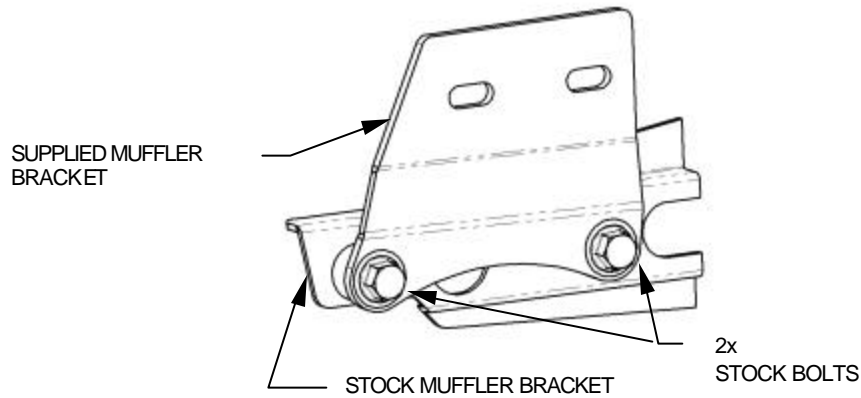

FIGURE 1
3. Remove the exhaust mount bracket from the box and mount it to the motorcycle mount bar using the stock bolts and nuts but **DO NOT TIGHTEN** at this time. (See figure 1)